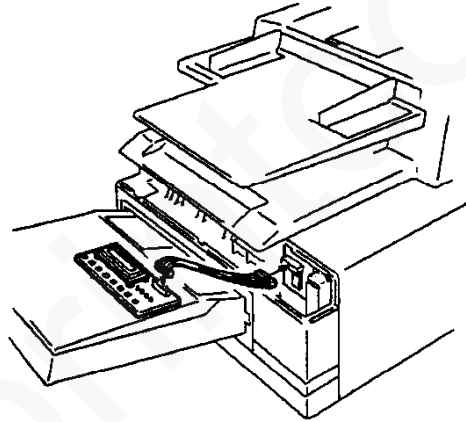

Figure 1. Setup Tool
6. Connect the setup tool to the setup PWB connector (CN2) (figure 1).
7. Switch on the power, while pressing the [Function] key on the setup tool. The setup tool should display all asterisks for a few seconds (figure 1), then the display will change to the margins setup numbers (figure 2).